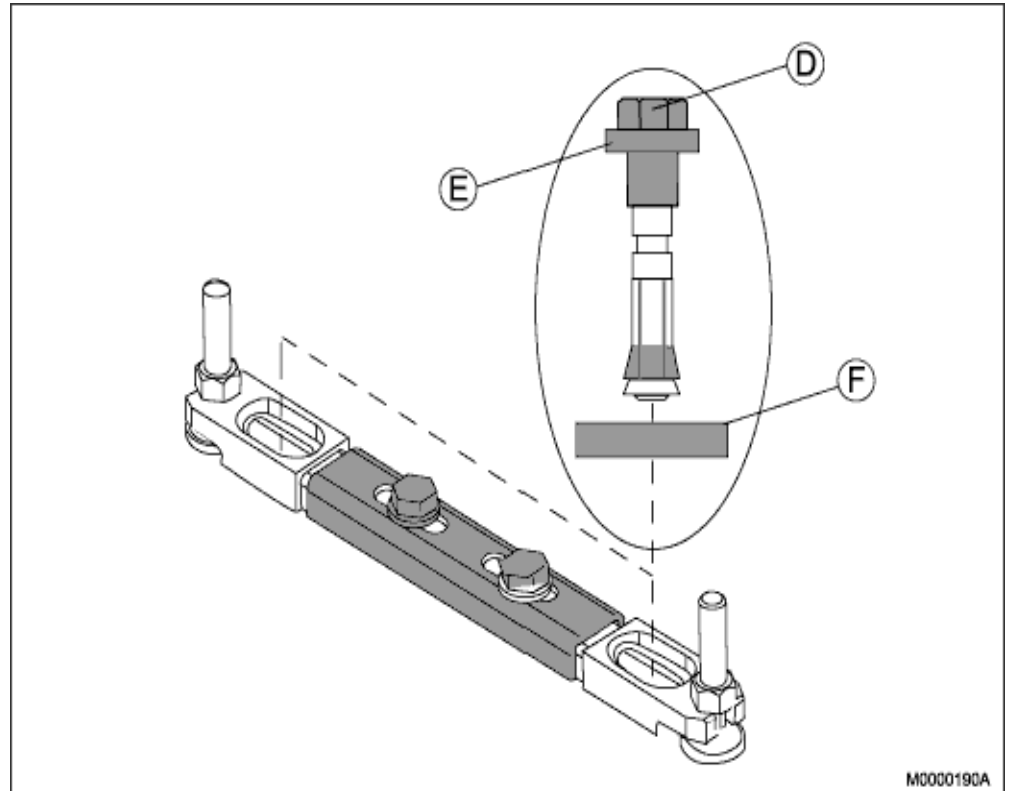

Figure 8: Installing the Expander Screw
1. Place two expander screws (D) with insulation bushing (E) and washer (F) through the fixing irons and into the concrete floor, see Figure 8:Installing the Expander Screw on page 15